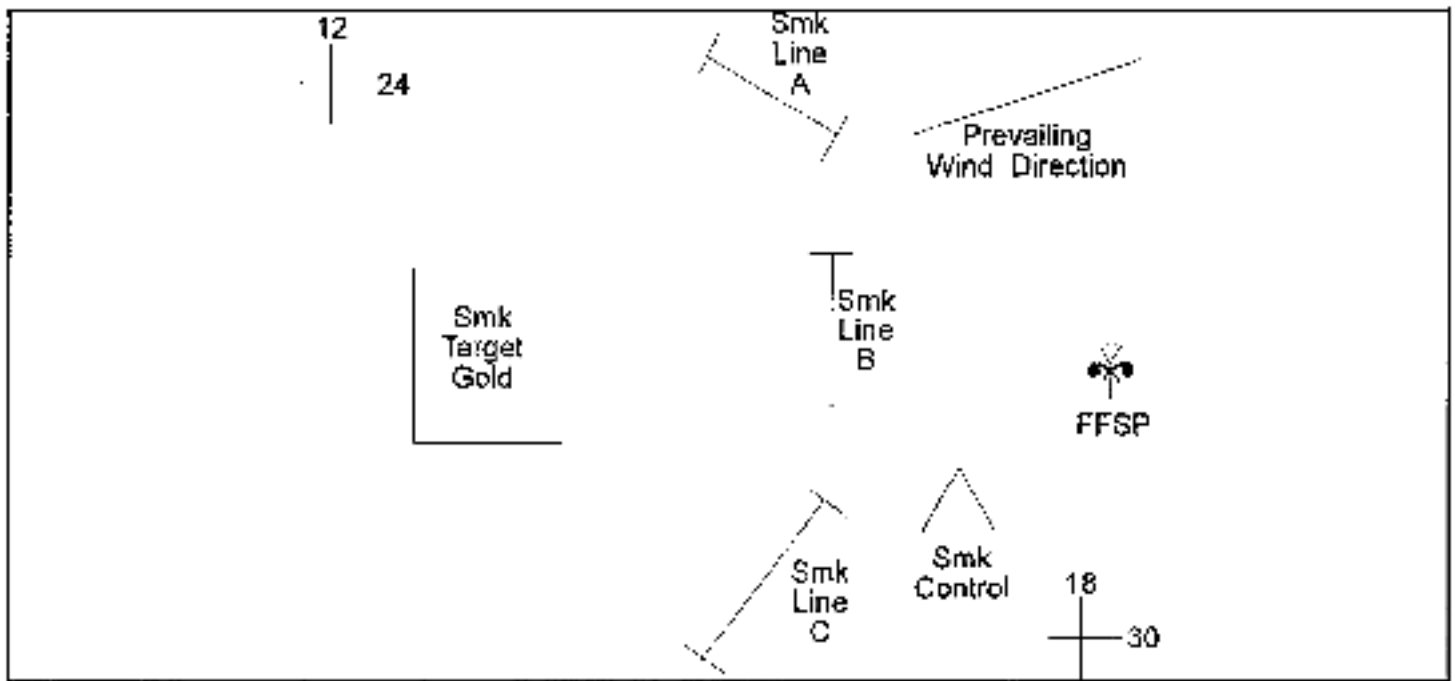

Figure A-2. Example of a smoke overlay (with the supported unit's graphics omitted).
Step 3. Plot lanes (mobile) or the approximate location of individual generators (static), planned fires, supported and supporting elements, fuel supply points, and enemy locations. Shifts in the direction of the wind may cause the smoke control officer to shift assets to alternate numbered positions to continue the mission. The overlay will facilitate this process and avoid confusion. Each leader who has the responsibility to control smoke units should have a copy of the overlay. Figure A-2 is an example of a smoke overlay.